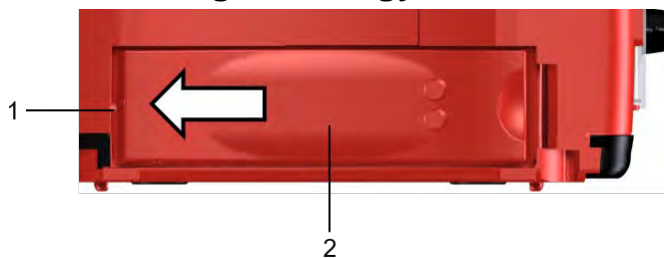

Fig. 12 DefiMonitor XD – inserting the energy module
- Push the energy module, fig. 12 (2) into the device in the direction of the arrow until it rests against the stop position (1) in the energy module slot.
- Press the energy module (2) into the energy module slot until it audibly clicks into place and it is flush with the device housing.